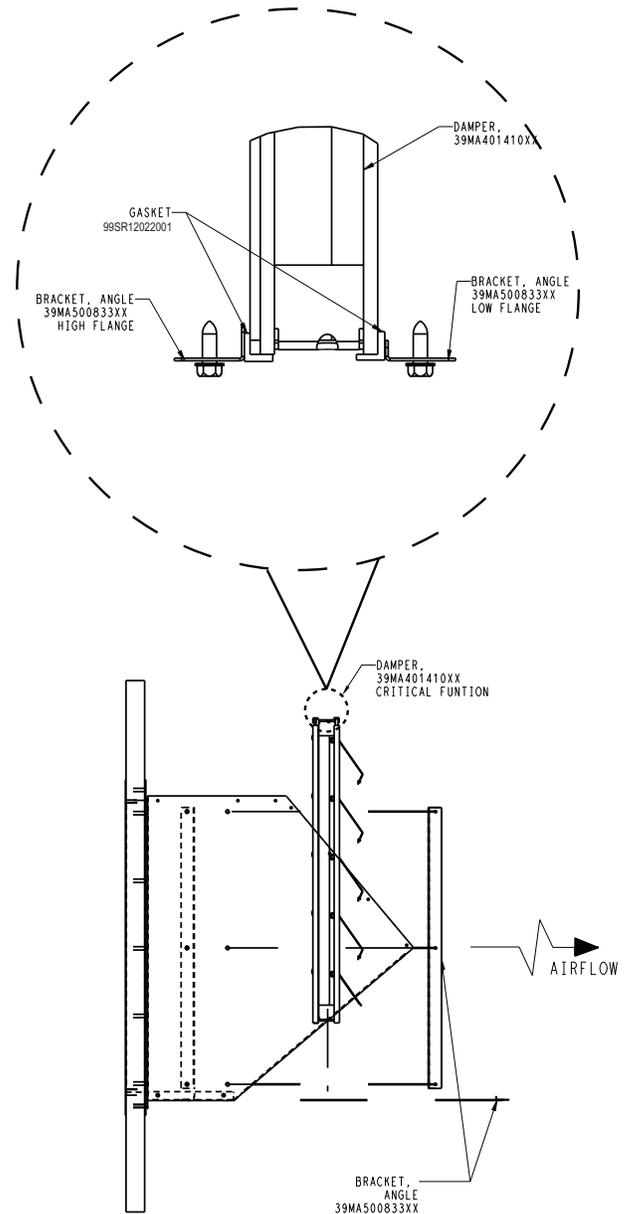

Fig. 82 – Installing the Damper
11. Install damper (if ordered) as shown in the Fig. 82. Orient damper blades to open out (in the direction of exhaust air.) Attach the 3 outer angle brackets to secure the damper to the exhaust hood using the 1/4 in.-14 x 5/8 in. long sheet metal screws (without neoprene washer.) After installing the 3 outer brackets, make sure the damper moves freely.